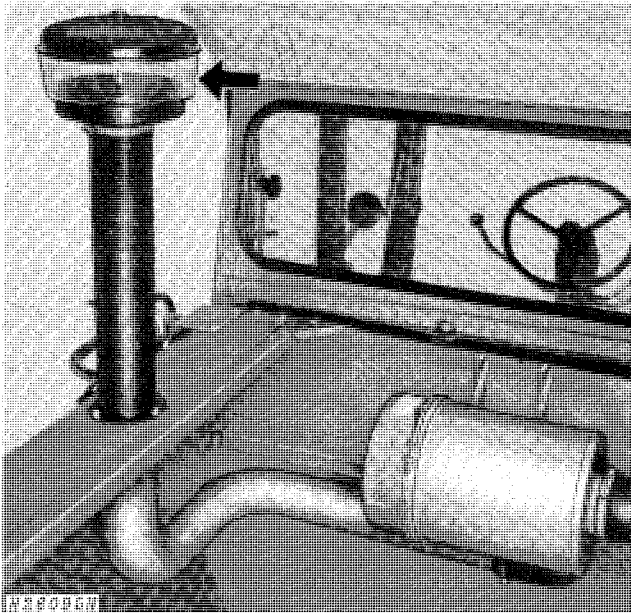

Fig. 9-Attaching Precleaner
1. Attach precleaner to airstack (Fig. 9).